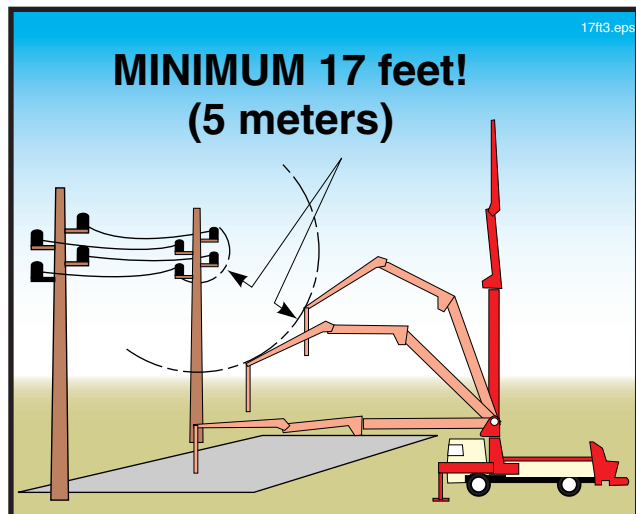

Figure 13
- 6.5 **⚠ DANGER** You **MUST** avoid hazardous proximity or contact with electric lines at all times! Position the machine so a minimum safety distance of 17 feet (5 meters) is maintained in all boom positions needed to do the job (Figure 13). **Never decrease the safety distance to reach an unsafe area with the boom.**